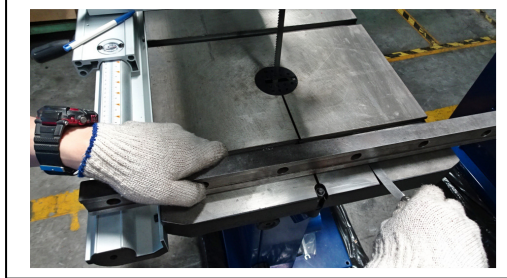

Figure 17
2. Use the ruler gauge to put it on the table. (Figure 17) Adjust the position of table pin (adjust the depth of the pin) and adjust the parallel of the table by using the feller gauge. Tolerance for the table parallel is within 0.4mm.